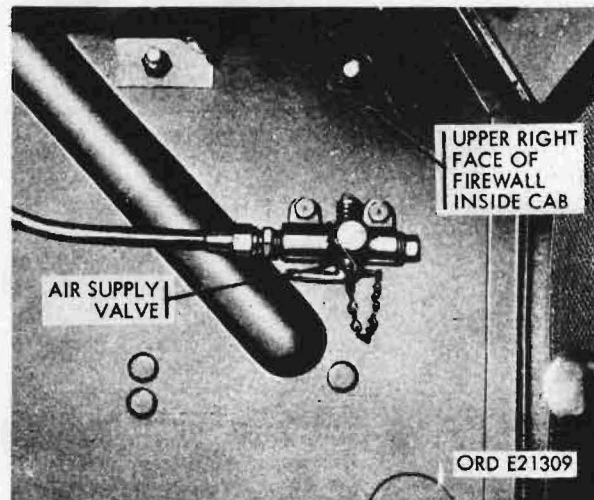

Figure 36. Air supply valve
(21) Fuel pump priming lever (gasoline engine vehicles only) (fig. 36). This lever, extending from the fuel pump that is located on the left side of the engine, is used to prime the pump after repairs or replacement in the fuel system, causing draining of the pump. A pumping motion of the lever causes fuel to enter the pump.